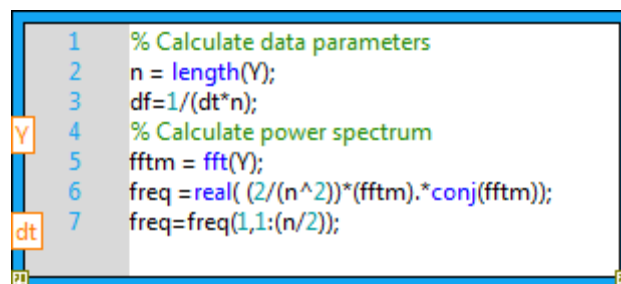

Figure 40. You can past any .m script functions into the MathScript Node to perform text-based math in-line with your graphical code.
19. Left-click inside the MathScript Node then press Ctrl+v to past the text. Your MathScript Node should look like Figure 40.